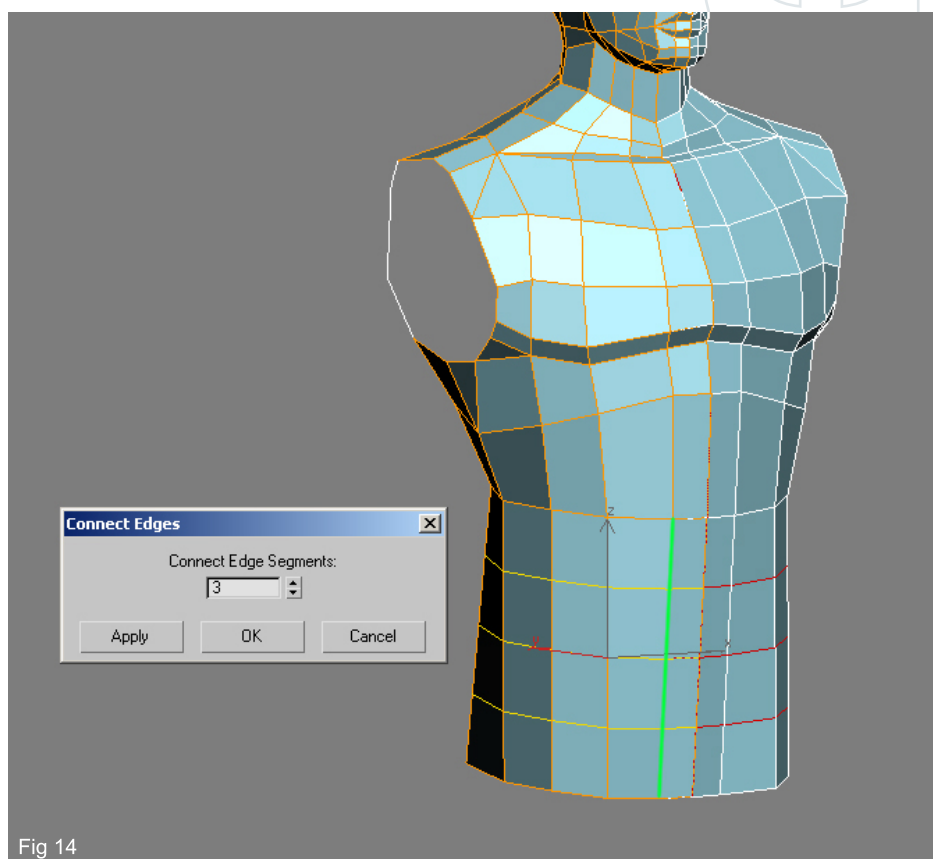

Fig 14
14. What we will do next is add a few subdivisions across the new section of poly's we have just made. So in "Edge" mode select any of the vertical edges (green line in Fig14) and click on "Ring/Connect" and add in three segments as shown in the dialogue box.